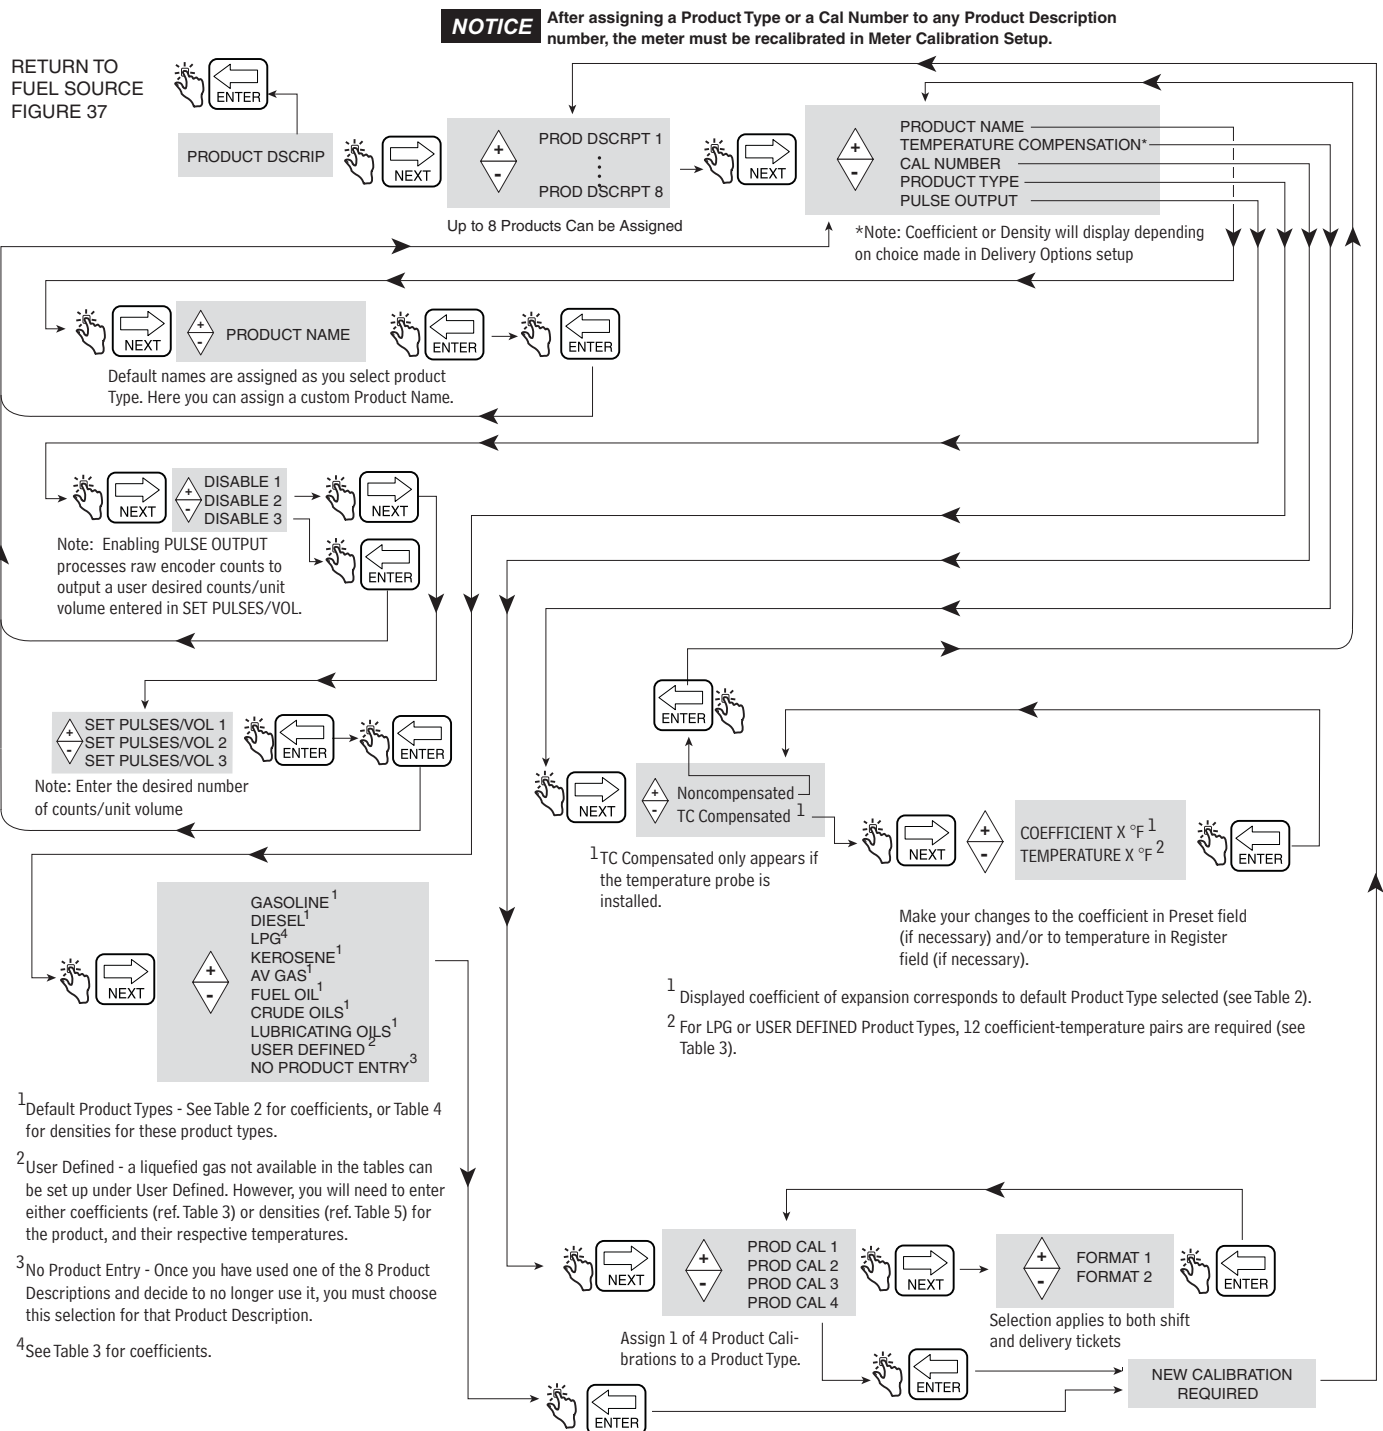

Figure 40. Product Description Setup
Figure 40 illustrates Product Description setup choices. You can assign up to eight products for the EMR4. Each product has a type, a name, and a temperature compensation factor. Thermal compensation for all products is calculated by either thermal coefficient or density, which you select in Delivery Options Setup (page 50).
Coefficient (C_{oe}) values may be modified to meet specific fuel/product specifications. The factor "t" is the measured fuel temperature. For example, use the procedure described in Figure 40 on page 41 to change the default coefficient of expansion for diesel from 0.00081 to 0.00083. To calculate temperature compensated volume the coefficient of expansion (C_{oe}) is now equal to 0.00083.
4. After completing the above 3 steps, change the default density value for up to eight specific products as described in Figure 40, Product Description Setup.